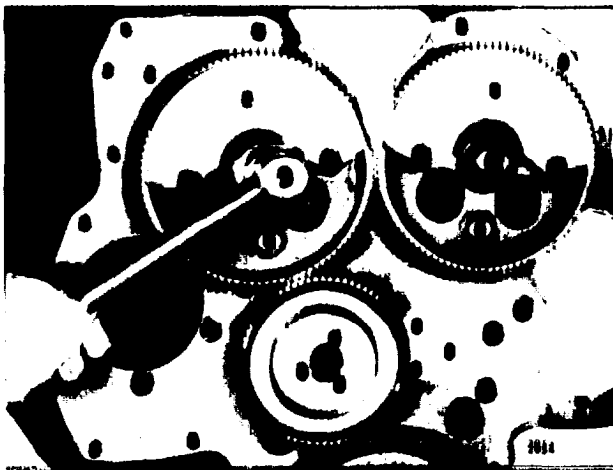

Fig.1 Removing or Installing Nut on Camshaft or Balance Shaft
7. Wedge a clean rag between the gears as shown in Fig. 1; then, remove the nuts from each end of both shafts with a socket wrench.